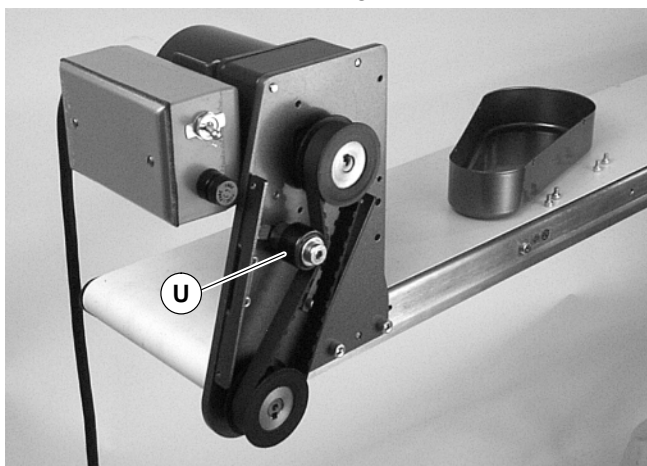

Figure 10
2. Loosen tensioner (U of Figure 10).
- Loosen tensioner (U of Figure 10).